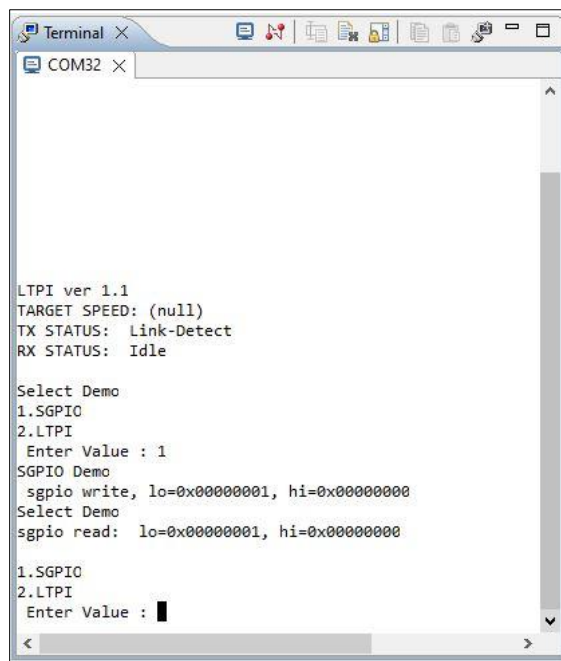

Figure 6.25. UART SGPIO Demonstration Selection
- Make the following selection for the SGPIO demonstration, as shown in Figure 6.25.